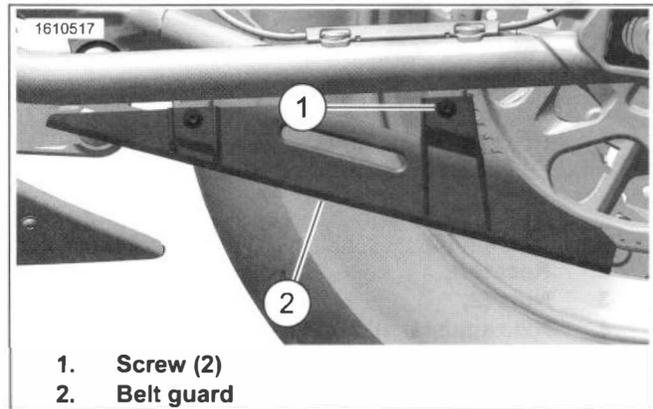

Figure 3-68. Bottom Belt Guard
1. See Figure 3-68. Remove screws (1).
2. Remove bottom belt guard (2).
- a. See Figure 3-68. Install bottom belt guard (2).
- b. Install screws (1). Tighten.